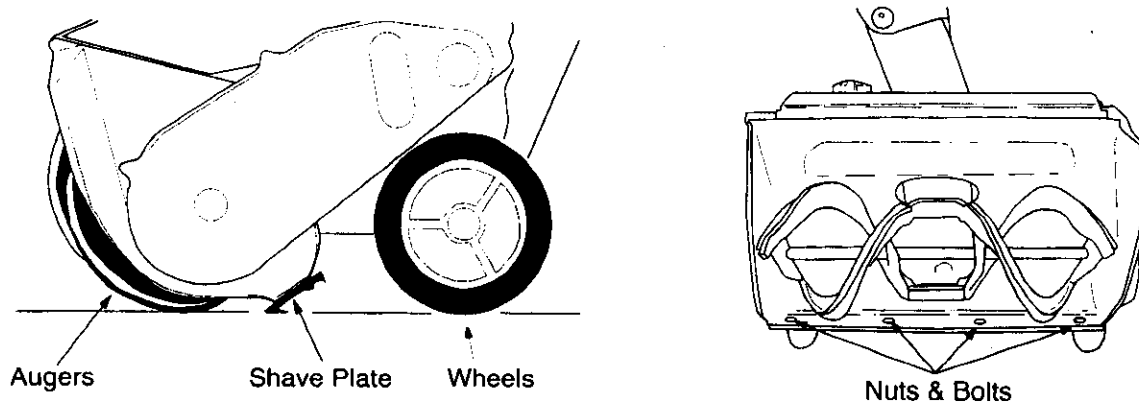

Figure 13
1. To check the adjustment of the shave plate, place the unit on a level surface. See Figure 13. The wheels, shave plate and augers should all contact the level surface. If the shave plate is adjusted too high, the snow may blow under the housing. If the shave plate wears excessively, or the unit will not self propel the shave plate may be adjusted too low.
2. To adjust, tip the snow thrower back so it rests on the handle. See Figure 13. Loosen the lock nuts and bolts which secure the shave plate to the housing. Move the shave plate to desired position and retighten the nuts and bolts. Make certain all nuts and bolts are tightened securely.
The shave plate is subject to wear. It should be checked periodically. There are two wearing edges and the shave plate can be reversed. Refer to Figure 13.